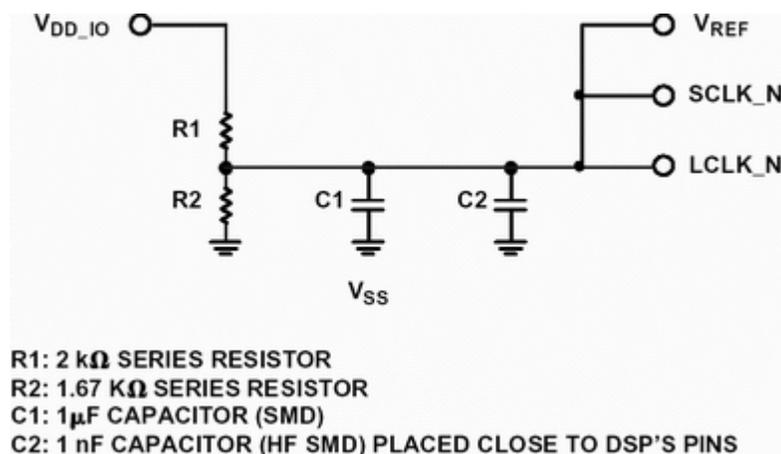

Figure 7.  $V_{REF}$ , SCLKN and LCLKN filtering scheme
1. Connect VREF, LCLK\_N, and SCLK\_N to a reference voltage of  $1.5V \pm 100mV$ . Figure 7 shows a possible filtering circuit.